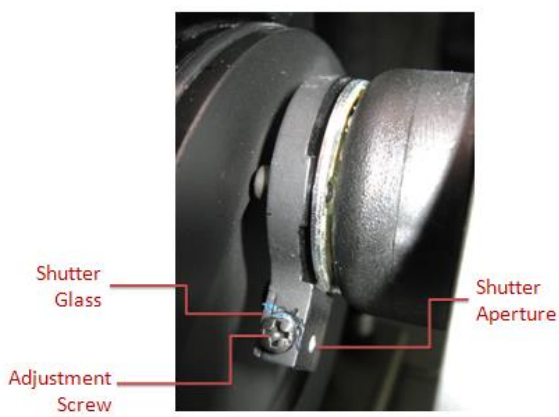

Figure 45 – Reference Shutter
4. Clean the top of the reference shutter glass (Figure 45) with a lint free tissue or cotton bud and warm clean water, then leave to dry. Also clean the opposite side of the reference shutter glass by spraying CO Contact cleaner into the small shutter aperture to flush out any debris.